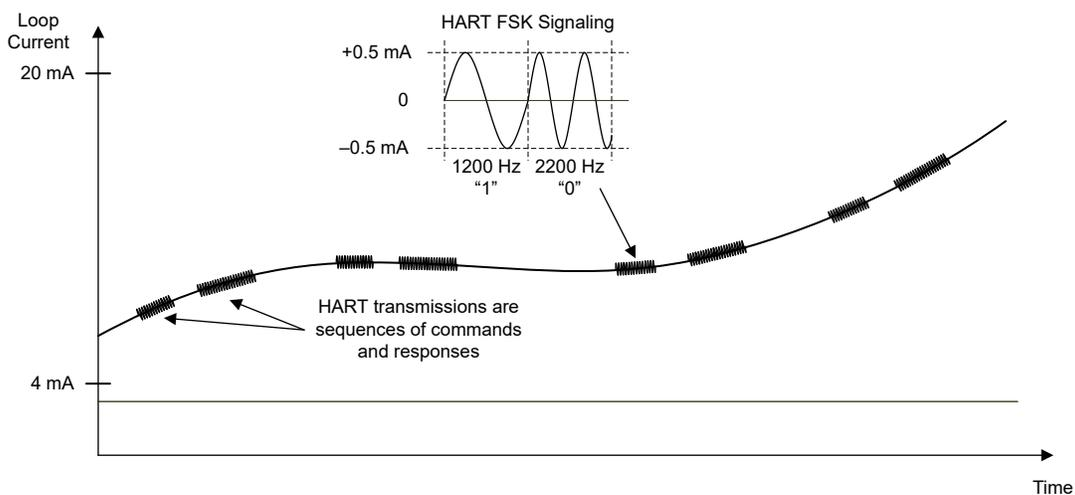

Figure 1. HART Communication-Frequency Shift Keying (FSK) on 4-20 ma Signal
- A HART transmission is a frequency shift keyed (FSK) signal superimposed on a 4-20mA signal (Figure 1).
- Field devices send a 4-20ma analog signal called a primary variable (PV) to the data converter in the analog input module which represents what the field devices are measuring (examples being temperature, flow, or pressure).